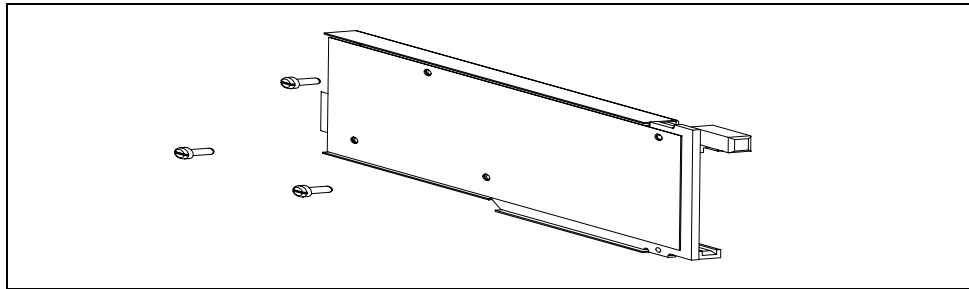

Figure 2-10
22. Unscrew the 3 fixing screws from the PCMCIA sub-assembly. (See Figure 2-10).